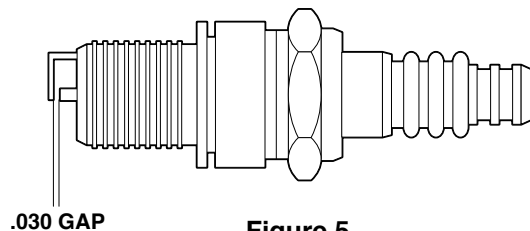

Figure 5
- Check the spark plug yearly or every 100 operating hours. Reference Figure 5